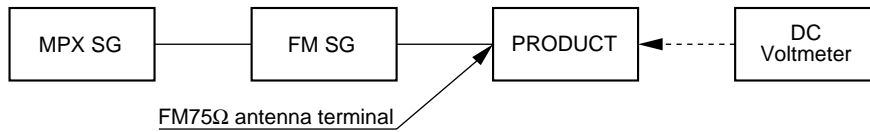

Fig.6.5 Adjustment Wiring Diagram
- Connect the wiring as shown in Fig. 6-5.